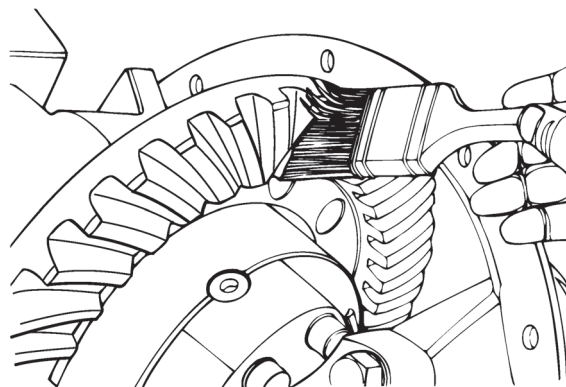

Figure 5.50
2. Apply a marking compound in approximately 12 gear teeth of the ring gear. Rotate the ring gear so that the 12 gear teeth are next to the drive pinion. Figure 5.50.